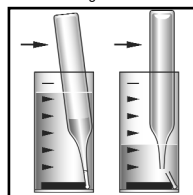

Figure 2
For CHEMetrics photometers, follow the **Setup and Measurement Procedures** in the operator's manual. For spectrophotometers, set the wavelength to 505 nm. A sealed ZERO ampoule is supplied in this kit for zeroing when the sample is colorless and not turbid. For improved accuracy with colored or turbid samples, Sample Zeroing Accessory Pack, Cat. # A-0503 is recommended. Using the sample cup, snap the tip of the A-0503 ampoule in the sample (see figure 2 below). Invert the ampoule to mix. Dry the ampoule and use it in place of the supplied ZERO ampoule to zero the instrument.
2. Place the Vacu-vial ampoule, tip first, into the sample cup. Snap the tip. The ampoule will fill leaving a bubble for mixing (fig 2).